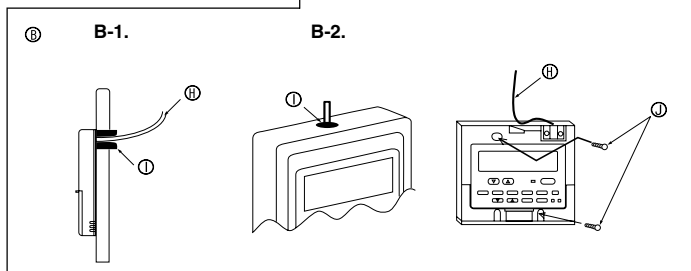

Fig. 6-3
(2) Seal the service entrance for the remote controller cord with putty to prevent possible invasion of dew drops, water, cockroaches or worms. (Fig. 6-3)
##### [Fig. 6-3]